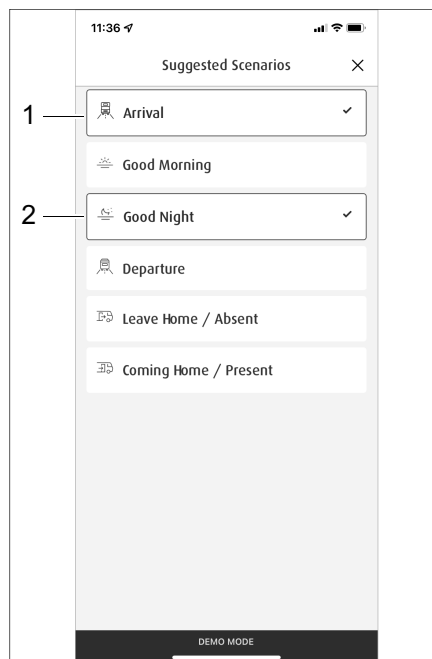

Fig. 291 Selecting preset scenarios
- Click on the desired scenarios, e. g. *Arrival* (Fig. 291,1) and *Good Night* (Fig. 291,2).